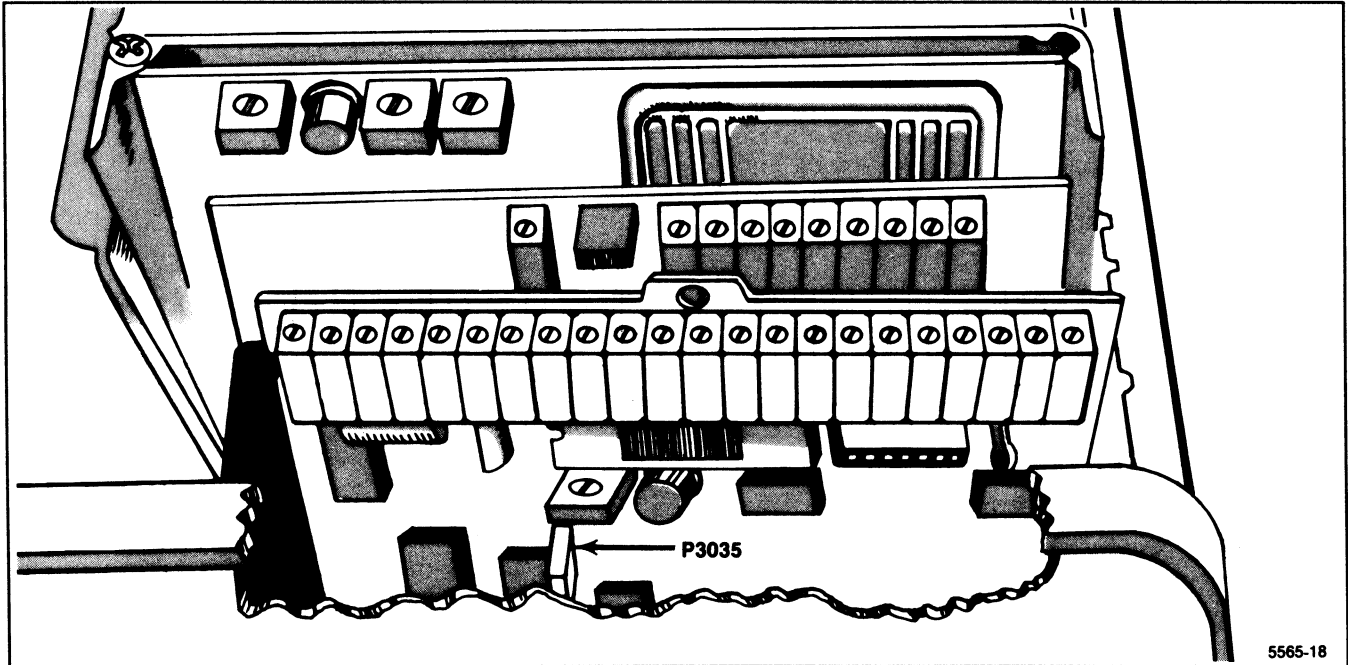

Figure 5-13. P3035 on the Video Processor board.
a. Set the Log Amplifier correction factors to zero by pressing <SHIFT> 0 (DIAGNOSTIC FUNCTIONS) and selecting item 5 (INTERNAL MEASUREMENT RESULTS), then item 2 (SET RESULTS TO "UNCALED"). Remove Leveler Disable plug P3035 on the Video Processor board (Figure 5-13).